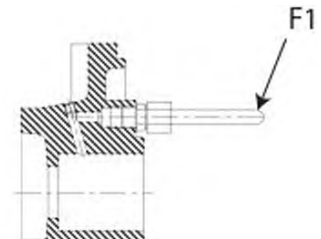

Figure 7
- Cooling, sealing and flushing of seal piping mus be connected only to the designated connections located on the pump (Figure 7,8).